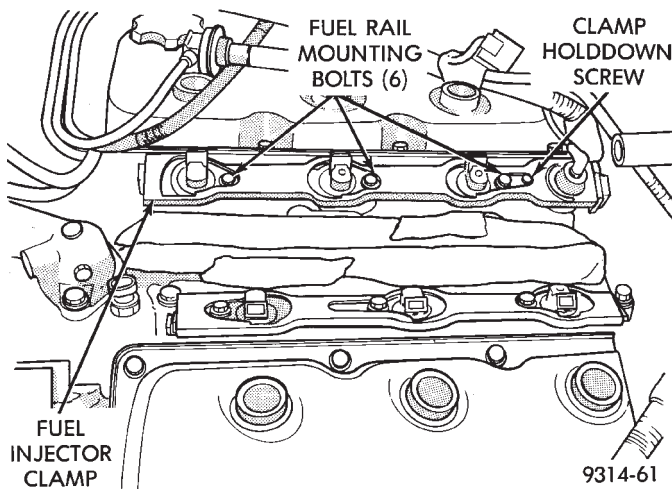

Fig. 30 Fuel Injector Clamp—3.5L Engine
- (8) Remove fuel rail mounting bolts (Fig. 30).
- (9) Remove injector clamp screw (Fig. 30).